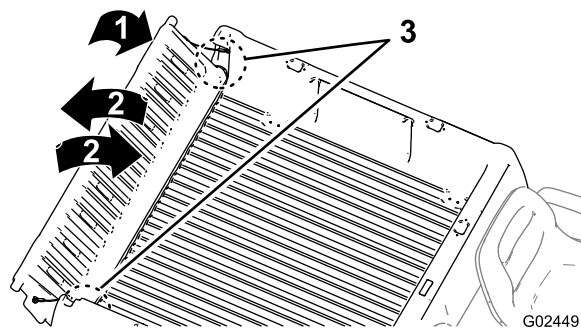

Figure 13
2. Rotate the tailgate to approximately 45° position (Figure 13).
3. Use a short, shaking motion to rotate the tailgate back and forth several times (Figure 13).